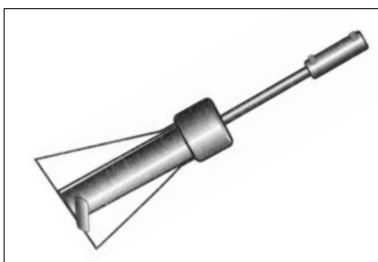

Figure 3b. Direct Drive Paddle Assembly
- Packaged as flask only. Cap and Direct-Drive Paddle Assemblies (Fig. 3b) must be purchased separately. No spare parts are included.